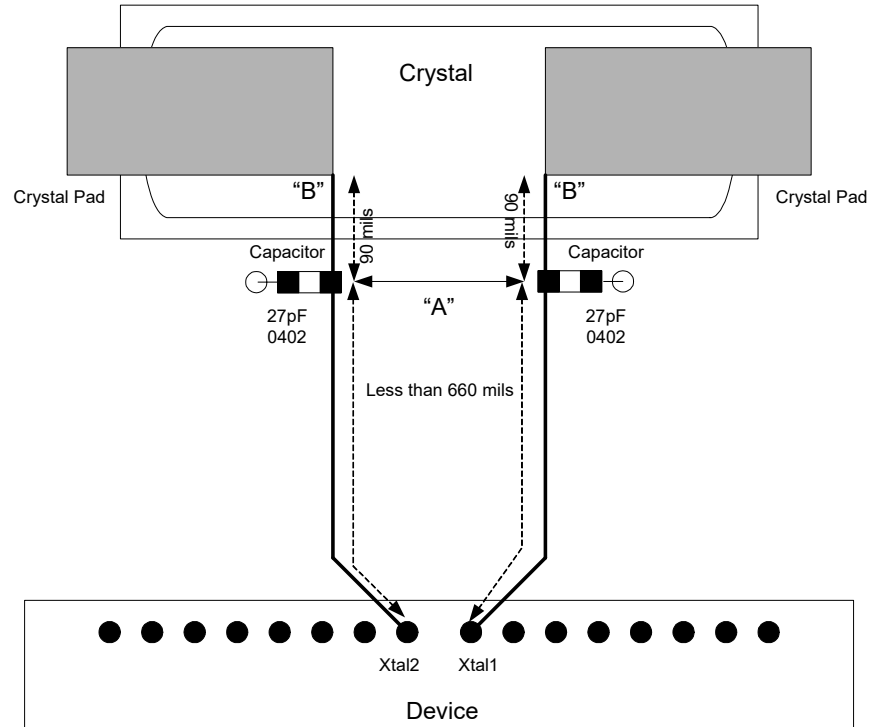

Figure 12-5 Recommended Crystal Placement and Layout
Figure 12-5 shows the recommended placement and layout of an internal oscillator circuit. Note that pin X1 and X2 refers to XTAL1 and XTAL2 in the Ethernet device, respectively. The crystal and the capacitors form a feedback element for the internal inverting amplifier. This combination is called parallel-resonant, because it has positive reactance at the selected frequency. In other words, the crystal behaves like an inductor in a parallel LC circuit. Oscillators with piezoelectric feedback elements are also known as "Pierce" oscillators.
- Place load capacitor solder pad directly in line with circuit trace (see Figure 12-5, point A).
- Route XTAL1 and XTAL2 traces to nearest inside corners of crystal pad (see Figure 12-5, point B).